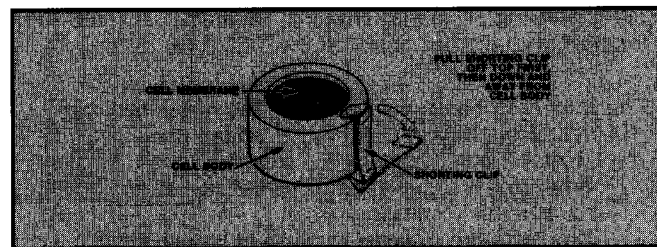

Figure 4. Removal of Shorting Clip
1. Remove the Micro-fuel Cell from its barrier bag. **Carefully and correctly** pull off the shorting clip (see Figure 4). **CAUTION: Do not scratch, puncture or otherwise damage the Micro-fuel Cell membrane. Damage to the membrane may require sensor replacement.**